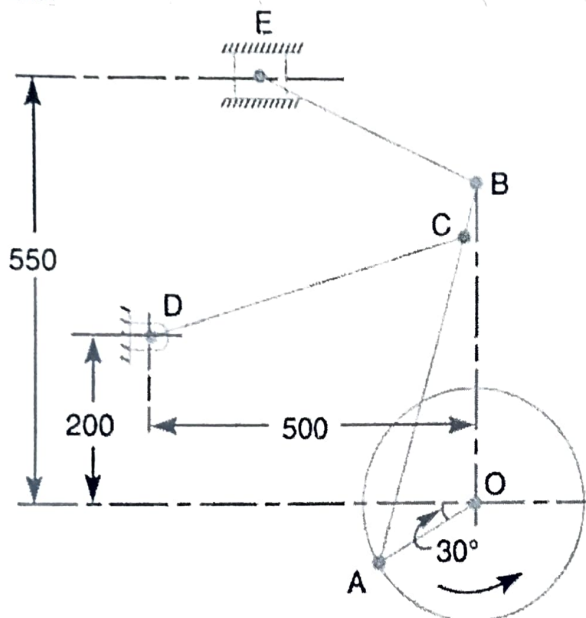

Fig. 2
- (B) Draw a neat sketch of Harts mechanism and prove that it traces a exact straight line. 08
3. (A) Fig 2 shows the mechanism of a radial valve gear. The crank OA turns uniformly at 150 rpm and is pinned at A to rod AB. The point C in the rod is guided in the circular path with D as center and DC as radius. The dimensions of various links are OA = 150 mm; AB = 550 mm; AC = 450 mm; DC = 500 mm; BE = 350 mm. Determine velocity and acceleration of the ram F for the given position of the mechanism. 14